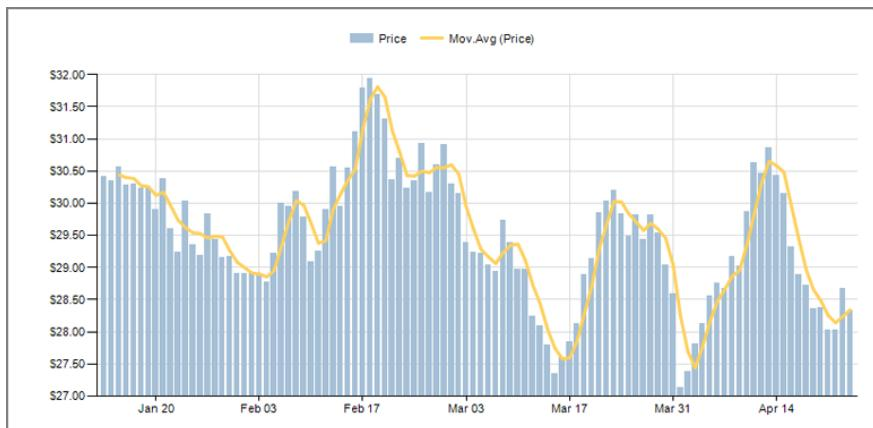

Figure 14-19
4. Click OK to create the calculated series, as shown in Figure 14-19.